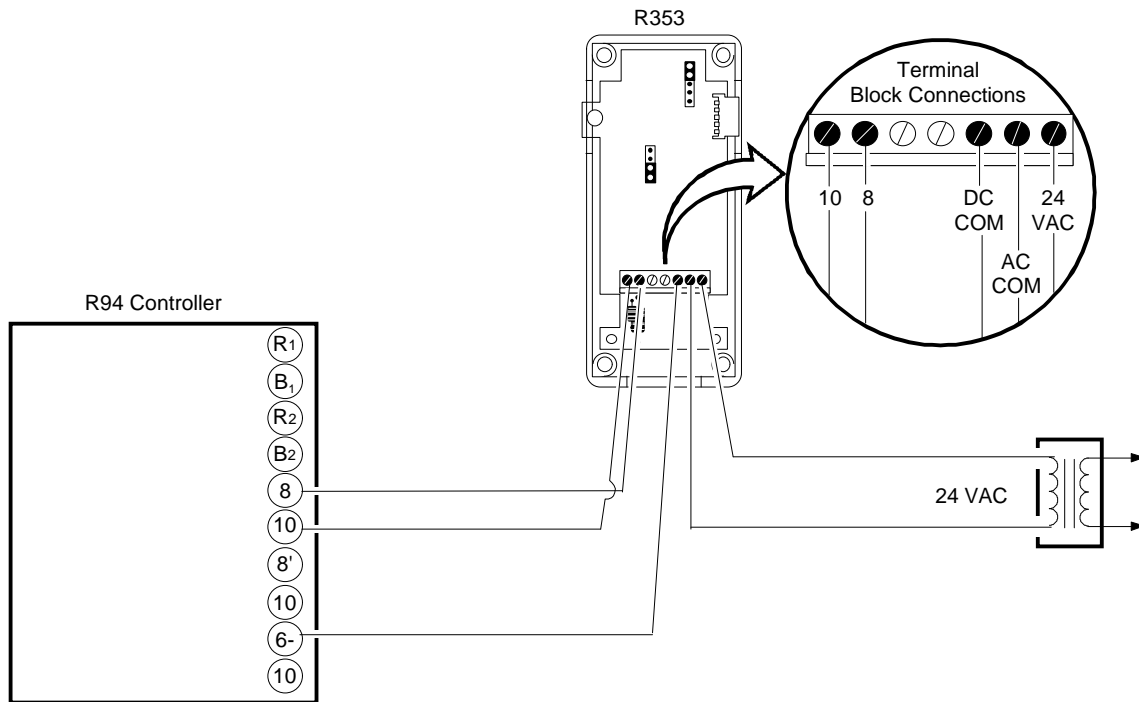

Figure 11: R353 Controlled by an R94 Controller
3. Route the wires from the controller to the R353 module through the conduit hole in the housing. Wire to the terminal block located on the circuit board. Refer to Figures 11 through 16 for wiring diagrams.